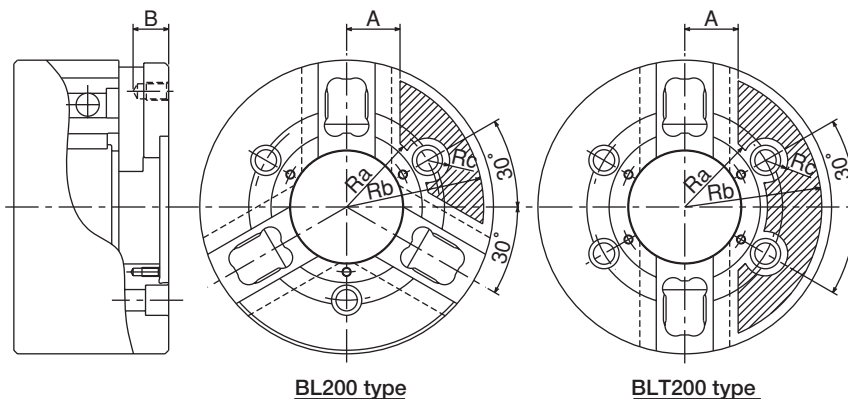

Fig. 13
- In the case of attaching the locator and the jig on the chuck body surface, tap or drill a hole in the additional process range specified in Fig. 13.